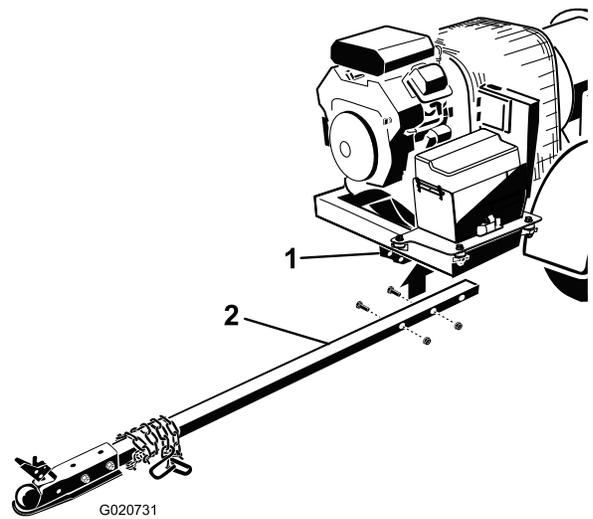

Figure 4
2. Insert the hitch tube into the frame brackets (Figure 4). Secure the tube to the frame with 2 bolts (3/8 x 3 inches) and flange nuts (3/8 inch).